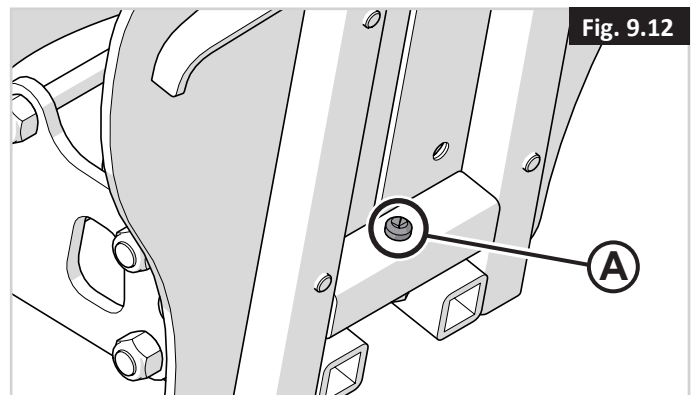

Fig. 9.12
2. Then tighten (A - Fig. 9.12) (4 mm Allen key)